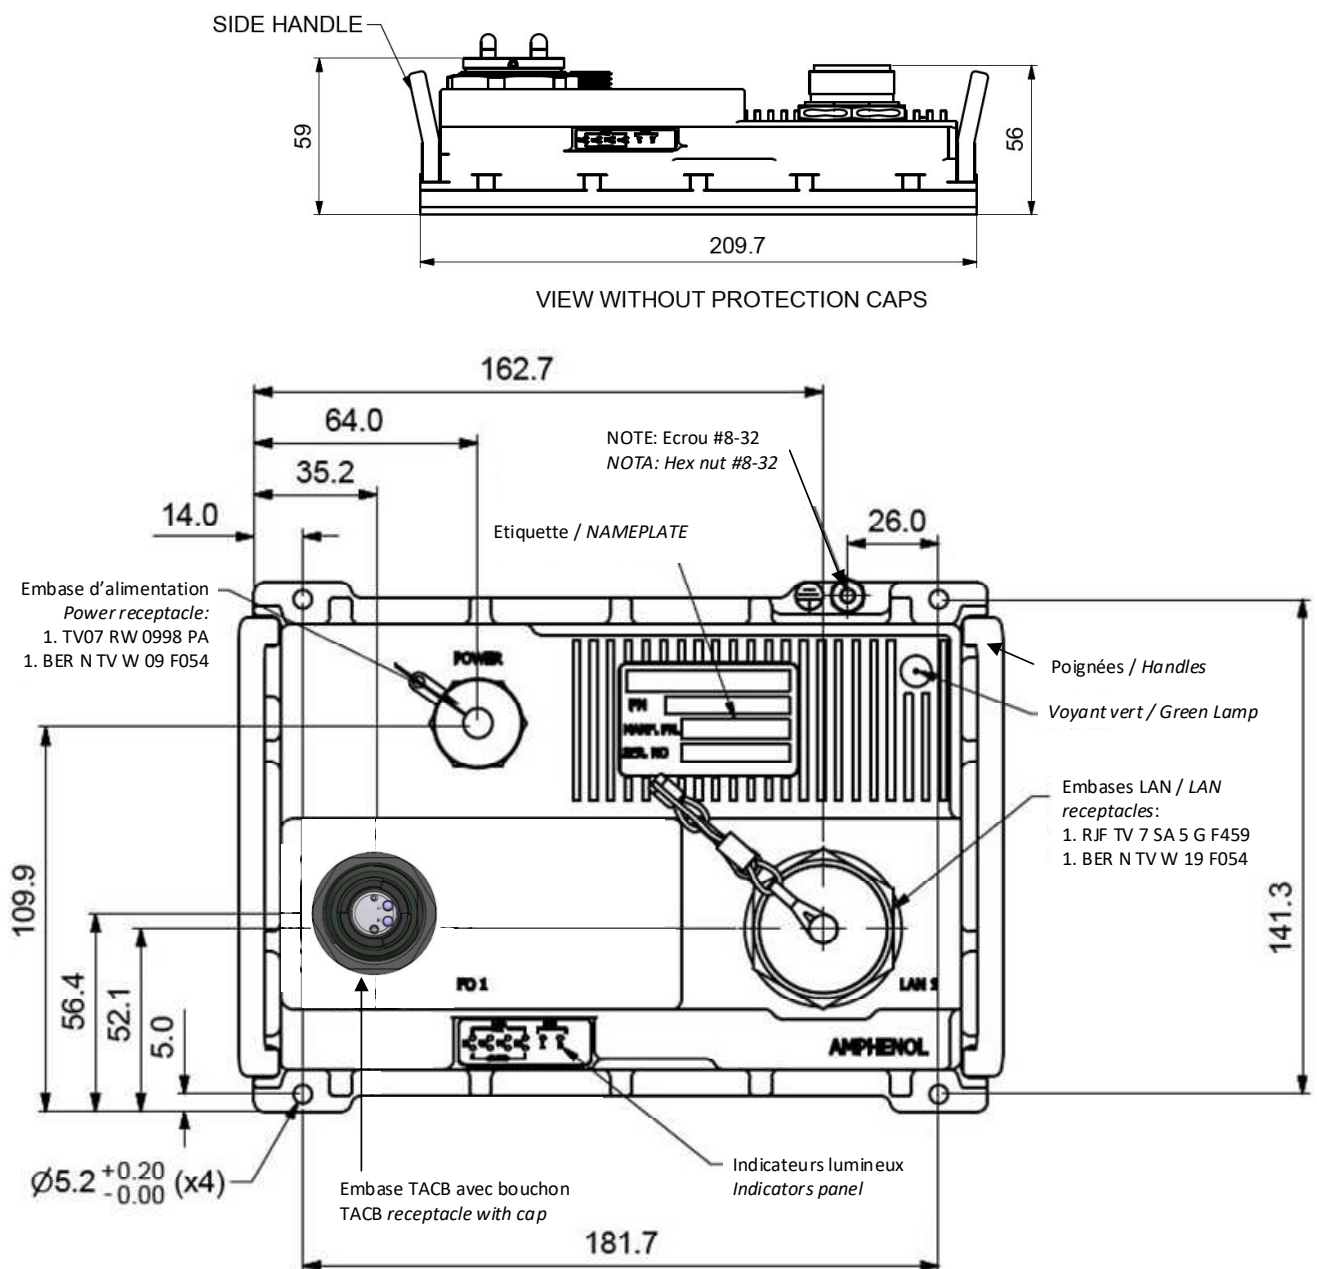

Figure 2 : RESGMC 1S 100 RJF 1TACB OD DC Physical Dimensions
3. Fold back the braid on the outer jacket and fix it (figure 2).